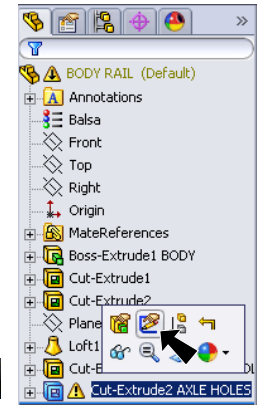

Fig. 71
Step 4. Click **Cut-Extrude2 AXLE HOLES** and click **Edit Sketch**  on the Content menu, **Fig. 71**.